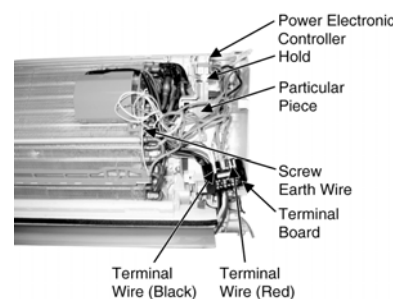

Fig. 6
- Release the screw for the Earth wire. (Fig. 6)
- Pull out 2 terminal wires (Black & Red) from the Terminal Board. (Fig. 6)
- Detach the Terminal Board from the Control Board. (Fig. 6)
- Press the Hold to left hand side, remove the Particular Piece and slide out the Power Electronic Controller. (Fig. 6)